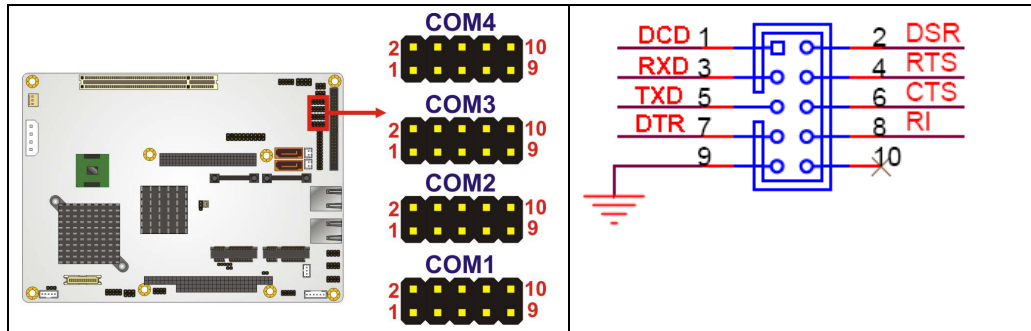

Figure 4-20: COM Connector Pinout Locations
- CN Location:** See **Figure 4-20**